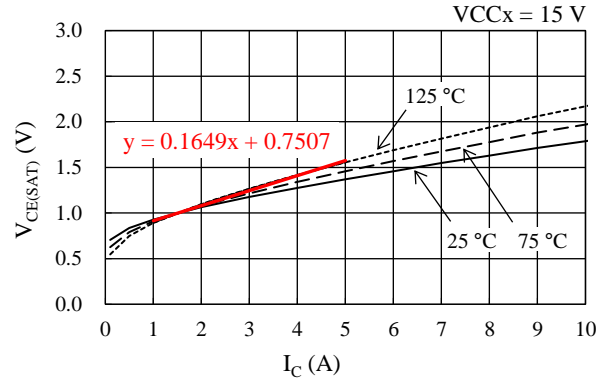

Figure 14-1. Linear Approximate Equation of V_{CE(SAT)} vs. I_C
Steady-state loss in an IGBT can be computed by using the V_{CE(SAT)} vs. I_C curves, listed in Section 15.2.1. As expressed by the curves in Figure 14-1, a linear approximation at a range the I_C is actually used is obtained by: V_{CE(SAT)} = α × I_C + β. The values gained by the above calculation are then applied as parameters in Equation (4), below. Hence, the equation to obtain the IGBT steady-state loss, P_{ON}, is: